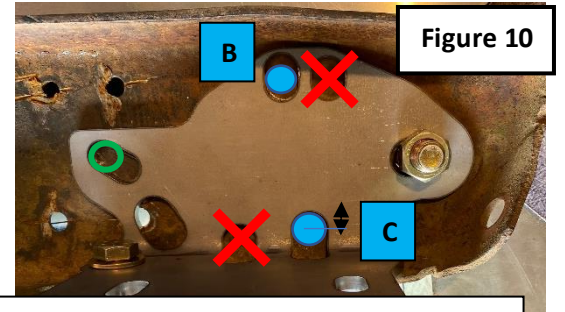

Figure 10
5. Once these two bolts are tight, mark frame for drilling. Green circle shown in Figure 10 is a 1/2" diameter hole that should be located centered in top corner of slot as shown in pic. Blue circles shown in Figure 10 are 5/8" diameter holes that should be located as follows:
- b. Hole C – Hole should be centered side to side. Center of hole should be ~9/16" down from top of slot as shown in Fig 10.
- a. Drill out holes, stepping up in size with larger & larger drill bits until (Figure 10) green hole is at 1/2" and blue marked holes are 5/8" diameter.